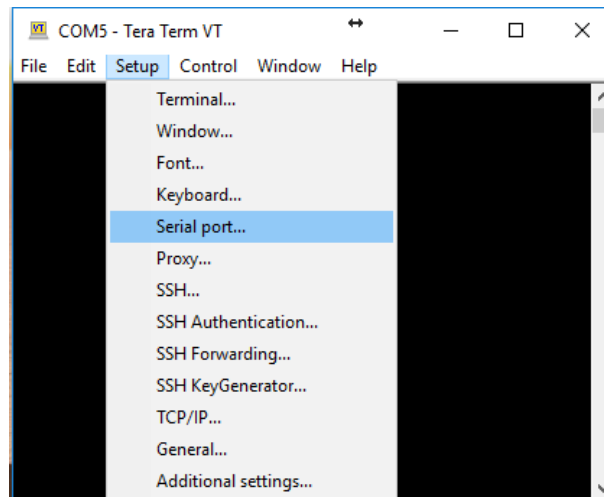

Figure 7.3: Terminal - serial port setup
4. Select the port and connection settings according information on figure 7.3 and 7.4.